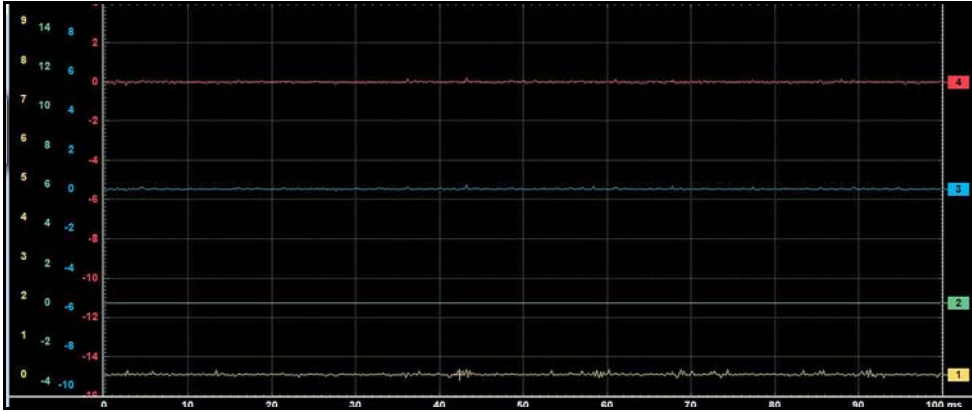

Figure 9-15 Sample grid selected
- **Show Grid**—switches grid lines on the screen off and on (*Figure 9-15*).
- **1 window**—shows all traces on the same screen (*Figure 9-15*).